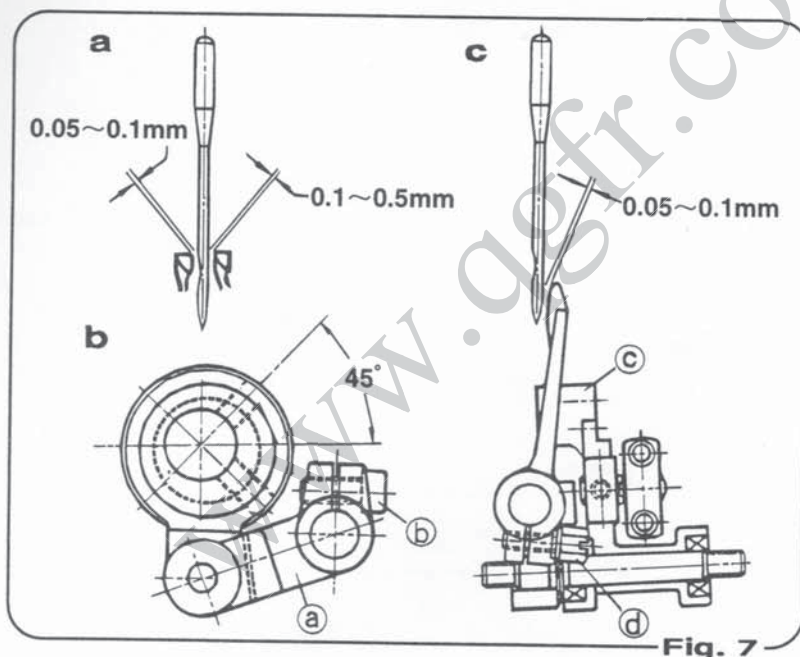

Fig. 7
Adjust the clearance between the needle and the looper to between 0.05-0.1mm when the needle goes forward and passes the rear of the needle. To obtain the correct clearance, loosen the screw (b) of the looper rocker frame (a) and incline (c) the looper rocker. Adjust the clearance of the needle and looper to between 0.1-0.5mm when the looper moves forward to the right at the closest point to the needle. (Fig.7-a)
To facilitate the adjustment first adjust the looper avoid eccentric cam so that its screw is 45° to center of the main shaft. (Fig.7-b)
Loosen set screw (d) and adjust the clearance of the needle and looper retainer to between 0.05-0.1mm as the needle goes up. (Fig.7-c)
* 其次，钩针从前进转向右边后退时，钩针通过针之凹弧处，这时两部件间隙必须接近于0.1~0.5mm如图示(图7-a)。
* 钩针摇动(#303061)降下位置，钩针倒偏心器(#303072)螺钉为了保持45°角度，暂系偏心器后进行细微调整(图7-b)。
针和钩针导部间隙需要调整。针从最低地点转上升时，针和钩针导部相隔必须保持0.05~0.1mm调整这间隙(图7-c)。